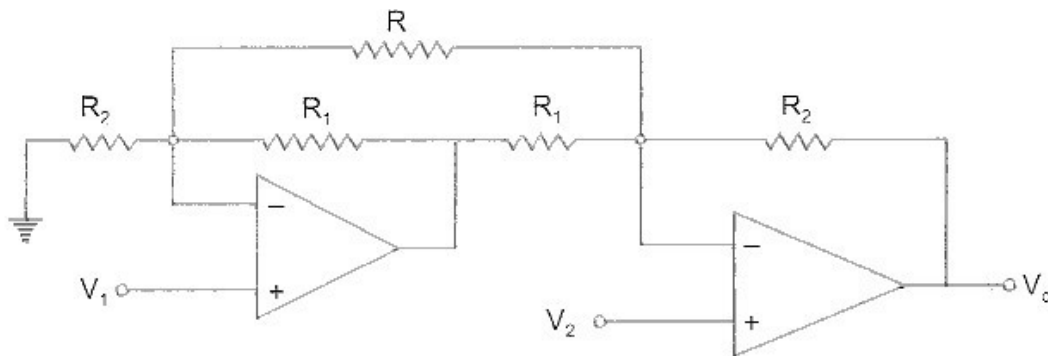

Fig. P. 4.6
4.6. For the instrumentation amplifier shown in Fig. P. 4.6 verify that,